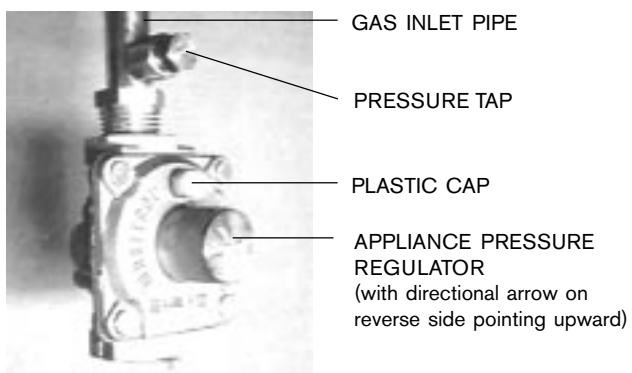

**Fig 5: Side wall exit locations for mechanical draft vent terminals**
**The vent diameter must be 4".** The appliance should be located as close to the point of termination as possible (see Fig. 5 for locating the terminator). The vent system should be as straight and short as possible. The vent pipe must be 4" single wall stainless steel (AL29-4C) or galvanized steel pipe of 26 minimum gauge. **Maximum vent length is 15 feet (4.6 m) with two 90-degree elbows.** Subtract 5 feet
The FXHOOD is design approved with the Aquastar 125FX and has a built in back draft flapper to prevent negative air from freezing the Aquastar – see Fig. 5 for restrictions in location of vent terminal.
An approved side wall vent terminal must be used when the water heater is vented through a side wall. Locate in accordance with ANSI Z223.1 and local applicable codes. See Fig 5 for restrictions in location of vent terminal in relation to opening doors and windows, grade, and forced air inlets. Be certain that snow and ice will not interfere with the vent.
The approved vent terminal must be installed so that flue gases will not jeopardize people, overheat combustible structures or enter into buildings, and so that proper clearances are maintained (See Fig 5).